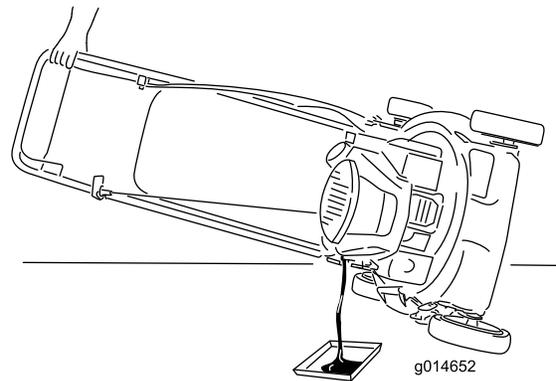

Figure 18
3. Tip the mower onto its side, with the air filter up, to drain the used oil out through the oil fill tube (Figure 18).